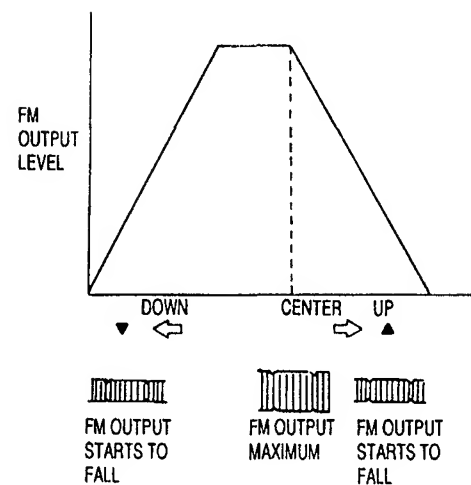

Fig. 3-106
- 1) Connect the oscilloscope to TP202 (FM).
- Press the two tracking control buttons (up and down) and check that the FM envelope becomes as shown in Fig. 3-106.